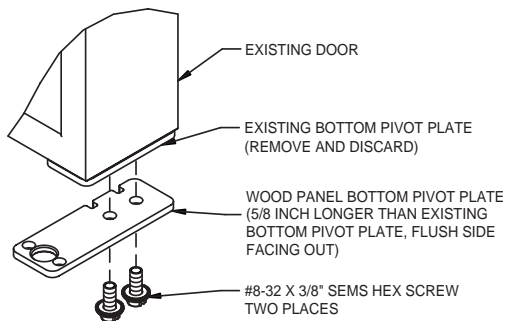

Figure 7
- e. Remove the existing bottom pivot plate and replace with the overlay panel pivot plate (P/N11901-2) (see Figure 7).